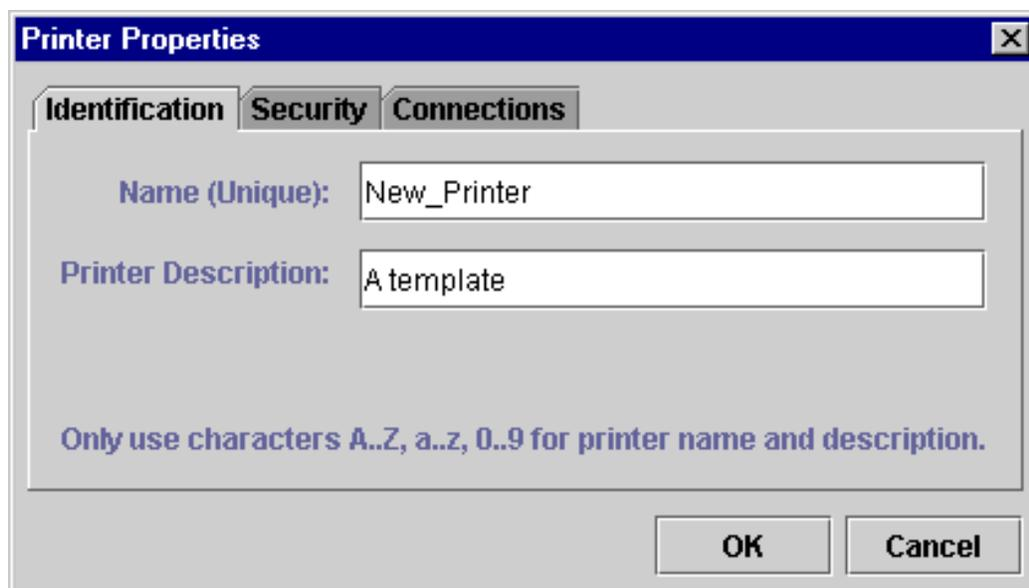

Figure 2. . Printer Properties (Identification)
3. Double-click on the "New\_Printer (A template)" icon. The Printer Properties window appears, as shown in Figure 2.